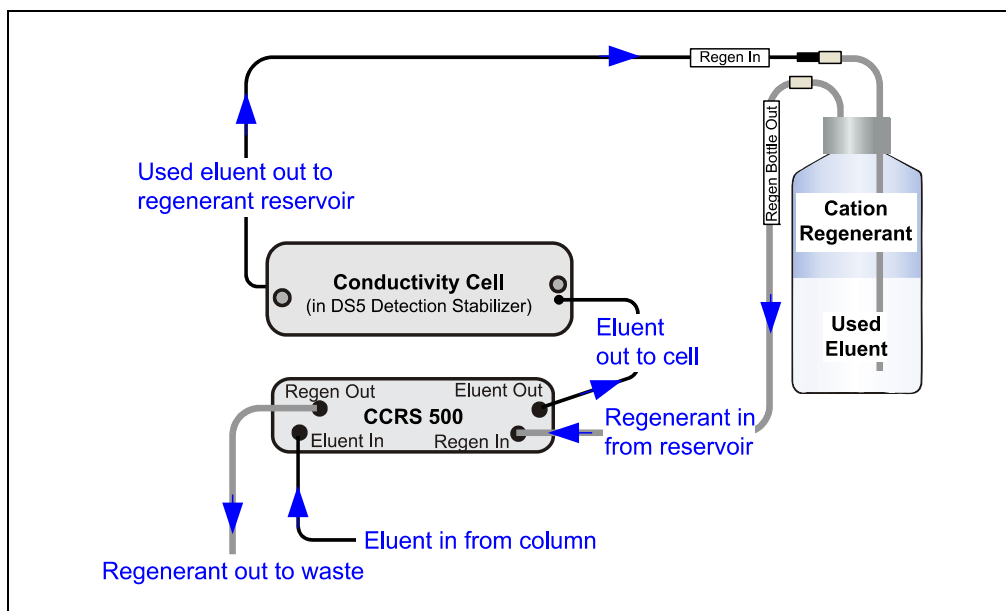

Figure 2-8. Cation Displacement Chemical Regeneration (DCR)
- In the cation DCR process (see Figure 2-8), the eluent is denser than the regenerant and it flows to the bottom of the bottle. This displaces the regenerant, pushing regenerant out of the regenerant line at the top of the bottle and out into the suppressor.